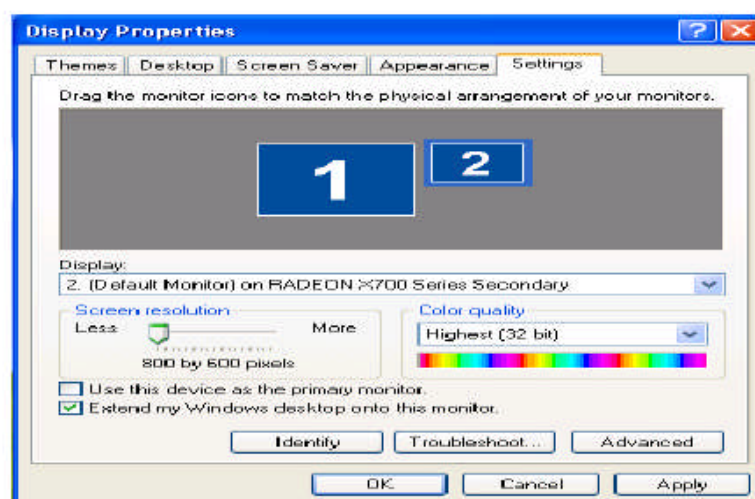

Figure 3-7
- B、 Click on “Property”: there will be “Property” dialog box (as shown in figure 3-7);